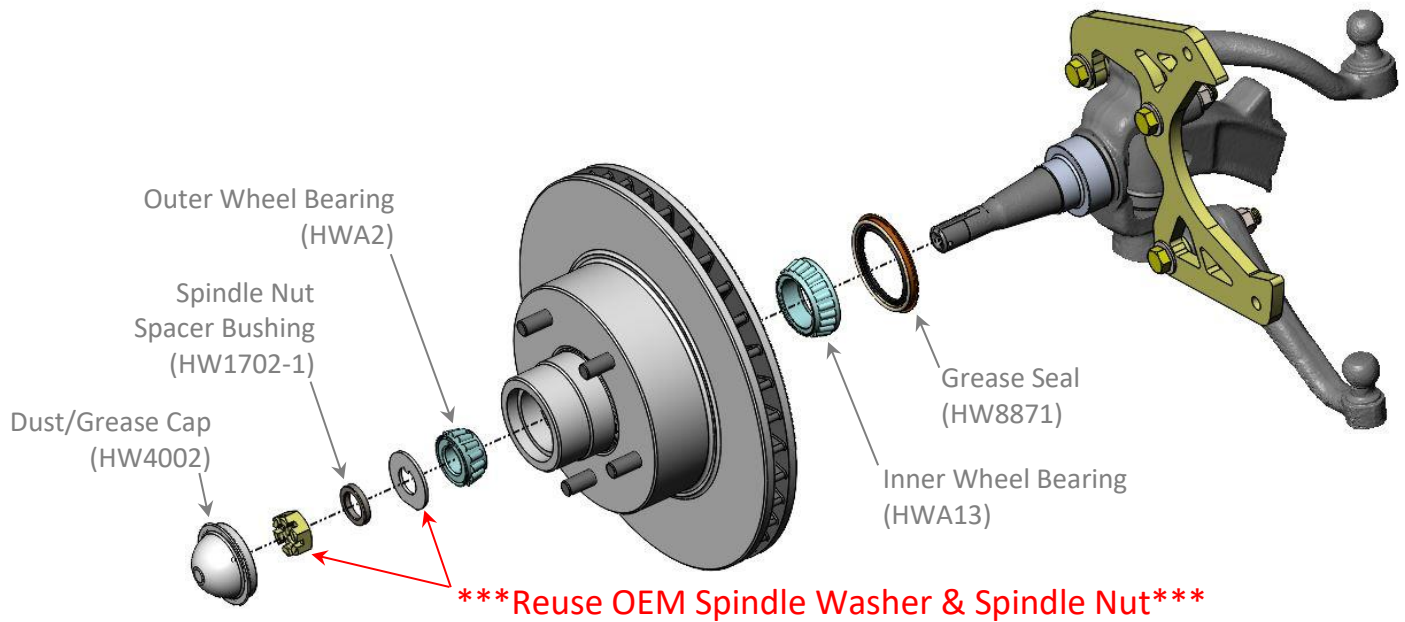
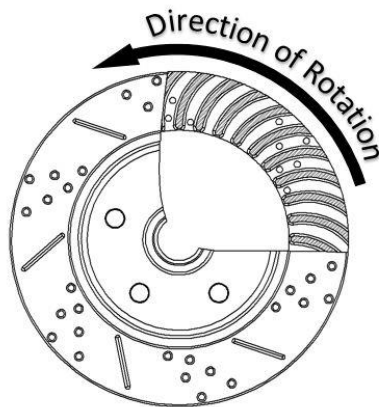

Figure 6a – Component Location (Driver Side Shown)
Figure 6b – Rotor Orientation
9. Slide the rotor onto the spindle. The inner wheel bearing and grease seal should be installed at this point. With the rotor fully pushed onto the spindle, install the outer wheel bearing followed by the OEM washer and spindle nut. Due to dimension differences, we provide a Spindle Nut Spacer Bushing to help with aligning the cotter pin hole to the slots in the OEM spindle nut. When tightening the spindle nut, tighten to 5-10 ft/lbs. Loosen the nut and tighten again using the same 5-10 ft/lbs. Do this a couple of times spinning the rotor to fully seat the wheel bearings onto the spindle. Loosen the nut a final time and re-tighten to remove all play. Tighten approximately an additional 1/16th of a turn to give the appropriate pre-load and line up the cotter pin hole. Install the cotter pin to secure the nut followed by the grease cap. Figure 6a on the next page shows the proper location of each component. **IMPORTANT:** If using slotted and drilled rotors, pay close attention to Figure 6b for proper rotor placement on the driver or passenger side.